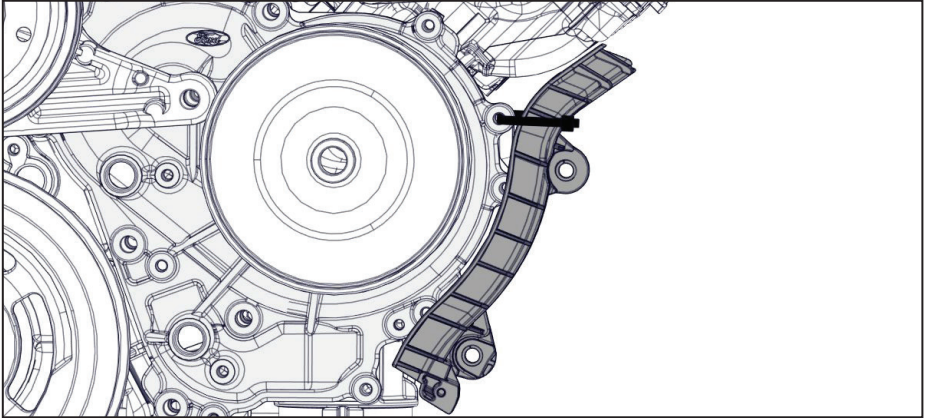

Figure 50 — Installing the cable tray
- ☐ Using a cable tie, secure the OEM cable tray to the water pump (Figure 50).